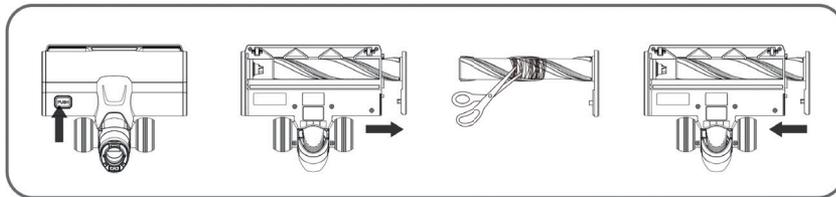

Figure 13
2. Press the PUSH button the top of the floor brush (Figure 13) to release the roller brush (Figure 14).